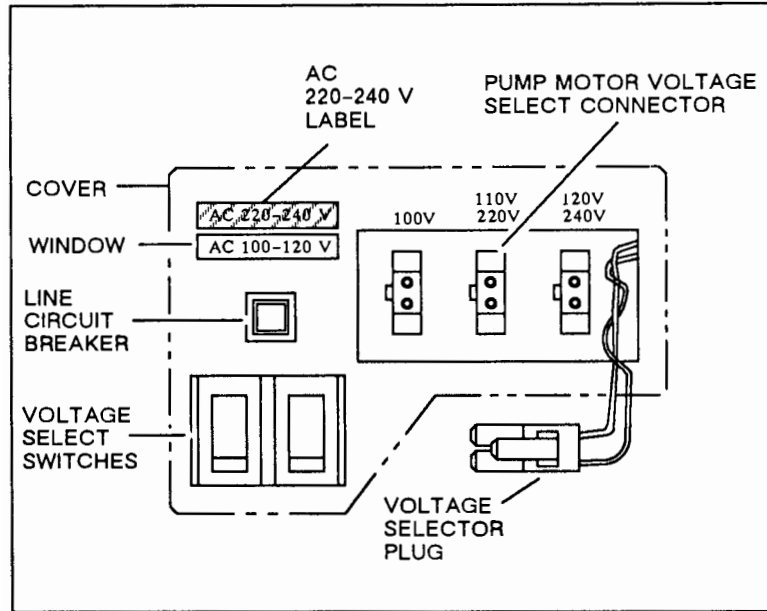

Figure 2-15. Voltage Selection Assembly
- e. Ensure that the voltage selector plug is plugged into the correct connector on the voltage selection assembly. The correct connector for each possible power source is described in the next three steps of this procedure. See Figure 2-15 while adjusting the position of the voltage selector plug.
- j. Verify the position of the cover over the voltage select switches on the Main Power Panel. For 100 to 120 Vac, the cover must be fastened so that the label, AC 100-120 V, shows in the window. For 220 to 240 Vac, the cover must be fastened so that the label, AC 220-240 V, shows in the window. See Figure 2-15.